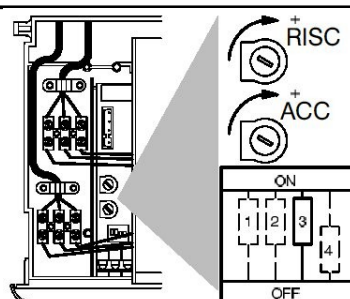

Fig. 6.51
16. Check the ignition gas pressure by setting dip-switch "3" (Fig. 6.51) to the OFF position. Compare the value on the gauge with the value indicated in the sections 4.5 or 4.6 (gas pressures at the burner), accordingly with the model of boiler installed.
To adjust the ignition gas pressure, set dip-switch "3" (Fig. 6.51) to the "OFF" position and adjust potentiometer marked "ACC" with a screwdriver until correct ignition gas pressure is obtained.
With the boiler operating in C.h. mode, use a suitable screwdriver to turn the adjustment potentiometer marked "RISC" (Fig. 6.51). Rotating the potentiometer anti-clockwise reduces the maximum supply current to the gas modulator device, and thus reduces the gas pressure to the burner.